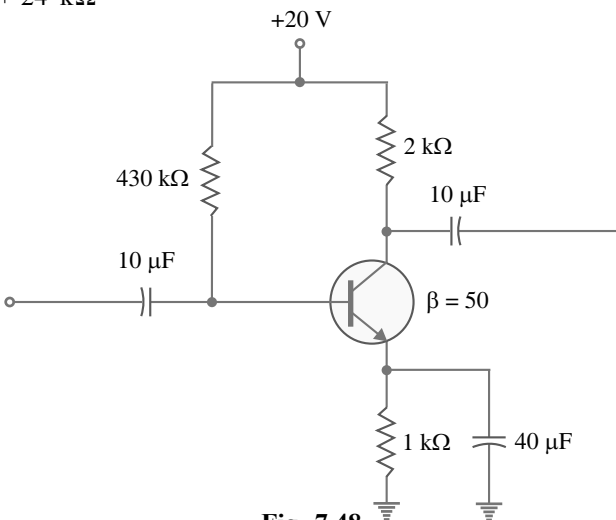

Fig. 7.48
**Example 7.41.** For the emitter bias circuit shown in Fig. 7.48, determine (i)  $V_C$  (ii)  $V_E$  (iii)  $V_B$  and (iv)  $V_{BC}$ . Assume that  $\beta$  of the transistor is 50.
**Solution.** Although the circuit does not look like an emitter bias circuit, yet it has certain features of emitter bias circuit like an emitter resistor in the emitter circuit. Applying Kirchhoff's voltage law to the base-emitter loop in Fig. 7.48, we have,